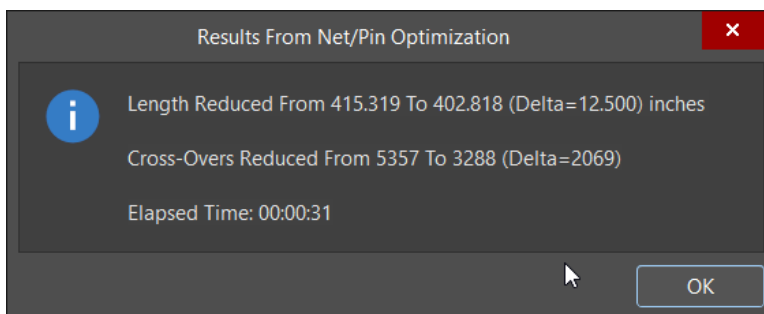

Figure 8. Results from Net/Pin Optimization
- Results of the optimization are summarized in Figure 8.